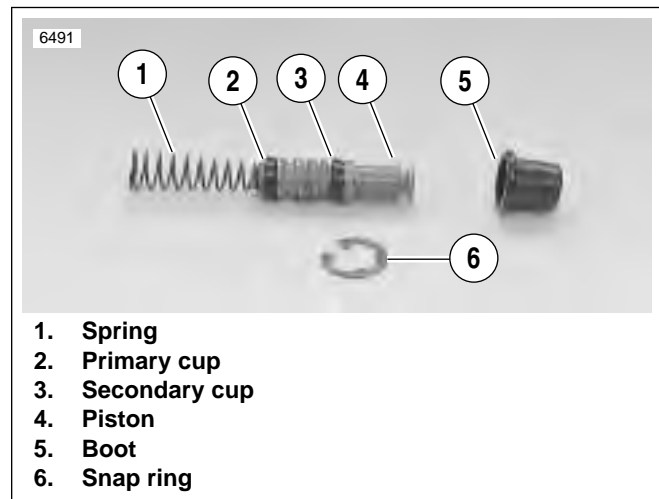

Figure 2-32. Piston Assembly
6. See Figure 2-32. Remove piston assembly (1-4) from front master cylinder.